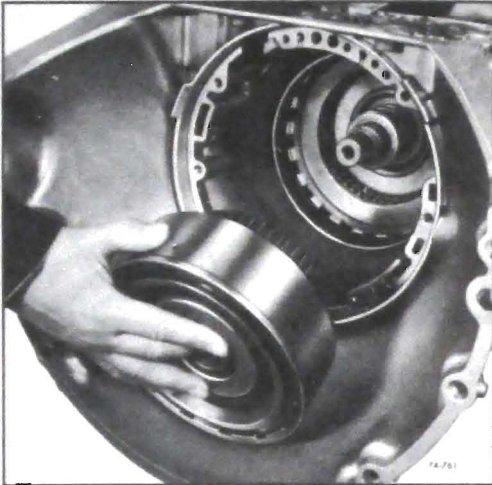

Figure 76-761
17. Install the direct clutch and intermediate sprag assembly. It will be necessary to twist the housing to allow the sprag outer race to index with the composition clutch plates. The housing hub will bottom on the sun gear shaft. See Figure 76-761.